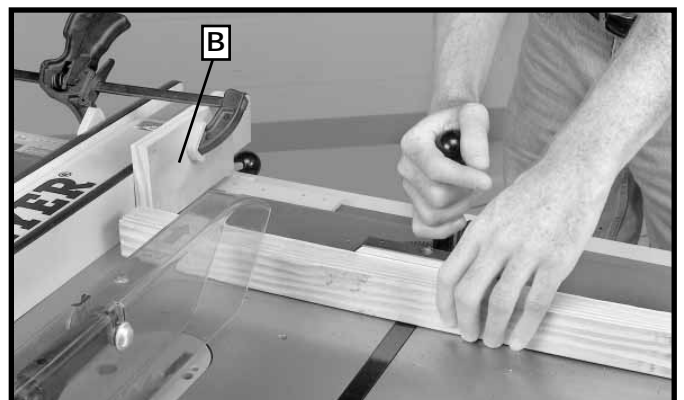

Fig. S4
When cross-cutting a number of pieces to the same length, a block of wood (B), can be clamped to the fence and used as a cut-off gauge as shown in Fig. S4. The block (B) must be at least 3/4-inch thick to prevent the cut-off piece from binding between the blade and the fence during removal from the saw table. It is important that this block of wood always be positioned in front of the saw blade as shown. Once the cut-off length is determined, lock the fence and use the miter gauge to feed the work into the cut.
⚠ CAUTION When using the block (B) Fig. S4, as a cut-off gauge, it is very important that the rear end of the block be positioned so the work piece is clear of the block before it enters the blade.